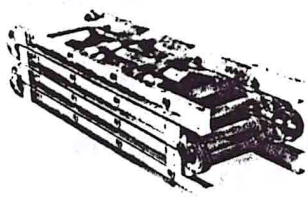

FIGURE 1.
- 2) Position ladder horizontally on a flat surface as shown in figure 1.